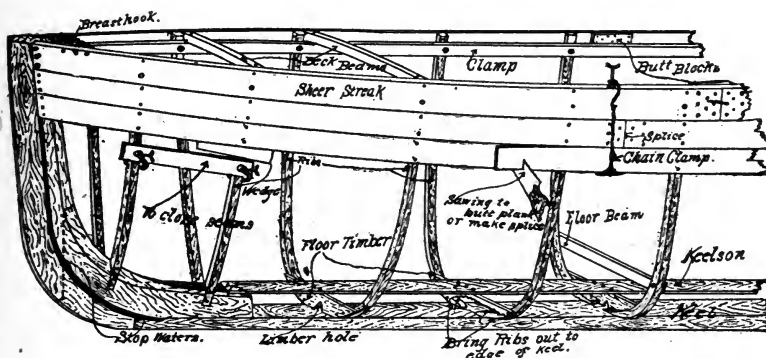

FIG. 6.
In placing your pattern on the wood be careful that the grain runs in the proper direction to give the greatest strength. For example, the grain in the breast-hook (Fig. 6) should run crosswise, in the transom-knees (Fig. 3) diagonally, etc.
longer than required length to be sure of a fit. Be sure to get the bend in the proper place, so that one end of the rib will not be too short. The ribs near the stems must be notched into the sides of the stem knee, as shown in Fig. 6.
indicating same as before, and the B that this is the 2nd piece of the plank from the bow. In shorter boats this plank would be in but two pieces. The proper edge of the plank is up when the number and letters on the patterns are right side up as the boat sets on her keel. Be sure to get the proper edge up. Mark the upper edge as you take the pattern off the board. The first strake of plank to be put on is the sheerstrake (See Figs. 1 and 6). Place the top edge even with the top of the molds and where the rabbet line ends on stem and sternpost (or top of transom in square stern boats). Most builders prefer to finish this in natural wood. In such a case all screws and bolts should be plugged. (See section on Painting, Varnishing and Finishing.) Screw the top edge to the ribs (as shown in Figs. 6 and 1). The bottom is not necessarily fastened until clamp is put in (see section 7). In putting on any strake fit up and nail to the stem and stern first, then splice. (Fig. 6).
Fig. 6 shows method of splicing plank. The plank patterns are all made about 6 inches longer than the finished plank is to be, to allow for sawing for the splice. Nail both pieces to the ribs except for the two or three ribs near the splice, and, holding the saw square across, saw both pieces off at once. This, of course, leaves the two pieces fitting perfectly, the saw cut leaving a space of about 1-16 inch between them to allow for calking. Make butt blocks (Fig. 6) of oak, as it will hold the nails well, and make them about the thickness of the ribs. Nail plank to both butt blocks and ribs from the outside with clout nails that will reach through and clinch. If sheerstrake is to be varnished, screw to butt blocks and plug screw. When the sheerstrake is on, put on the rest
Fig. 6 shows two methods of holding plank to place and closing the seams tight while nailing. The chain clamp may be purchased of the pattern makers. The other method, though serviceable, is not as convenient. It often requires quite a pressure to make these seams tight. They should come up tight on the inside, but the edges should be beveled before putting on, so that the seam will be open about 1-16th of an inch on the outside to allow the calking to be driven in. (See section on Calking.) After the plank is sawn out dress up the edges with a plane, and hold it up in place to see that it fits. At the same time bevel the edges a little to allow for the calking seam.
The clamps (Fig. 6) are located just the width of the deck beams below the top of the sheerstrake. They are straight pieces (preferably oak) and are sprung into place. They should be about  $\frac{1}{2}$  the width of the sheerstrake, and from  $\frac{7}{8}$  inch thick in 16-foot boats to about  $1\frac{1}{4}$  inches in 30-foot and 35-foot boats. They are bolted through every rib, the same bolt fastening lower edge of sheerstrake, Fig. 6.
The breast-hooks (Fig. 6) are of oak, with the grain running crosswise, and rest on top of the clamps. Bolt and screw them in as shown in illustration. Make them thick enough that they will dress down even with the sheerstrake so that the deck will lie flat on top of them. Place breast-hook in stern also of compromise launches.
The keelson is shown in Fig. 6. Have your floor timbers level so that keelson will lie flat on top of them. A  $\frac{7}{8}$  piece about the width of keel should be used. Fasten securely at stem-knee and stern, and to every floor timber, as this is the main strength of the boat. A keel and keelson construction such as this is immeasurably stronger than a solid keel piece such as some builders use, and absolutely prevents vibration.
**Decks**—But one deck-beam pattern is given, as this is sufficient. Cut deck beams to required length and get the shape from this pattern, since the curve will of course be the same in each beam. Deck beams are nailed on top of clamps and along side of a rib (Fig. 6) where a secure fastening may be made. Before nailing them in be sure the boat is spread out to proper width, according to forward mold which you have removed. Nail deck knees (Fig. 7) in a little high and then shape down
Put in the floor beams (Fig. 6) so that the floor will come about at the bend of the ribs. To get them all level put in a beam at each end first and be sure that they are at right angles with the perpendicular of the boat, so that the floor will be level as the boat sets in the water. Also place them at such heights that the floor will be level fore and aft. Then stretch two lines connecting the ends of these beams and fit in the remaining beams so that they just come up to these lines at each end. Then lay the floor on these beams and it will be level.